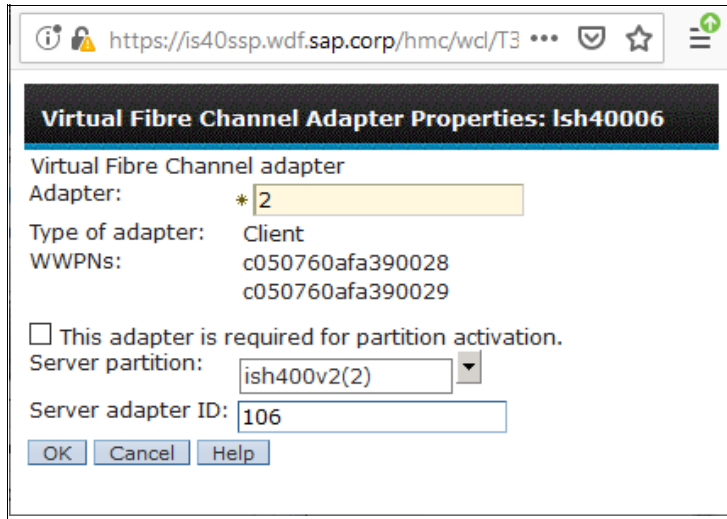

Figure 2-14 Getting the virtual WWPN that is required for zoning
- c. Figure 2-14 on page 29 shows the properties of the virtual FC client adapter. Here you can get the virtual WWPN that is required for the zoning.